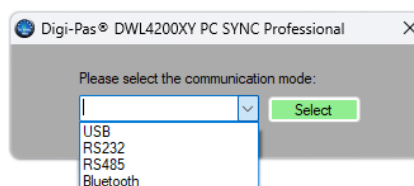

Figure 21. Select mode from the drop down menu
1. Assuming steps stated in 2.1 Configuration of Sensor Module(s) with Control Box and 3.1 Installation of the DWL4x00XY PC Sync Software have been done in this stage. Open PC SYNC software and select the desired mode from the drop down menu as shown in Figure 21. In this example, RS485 is selected.